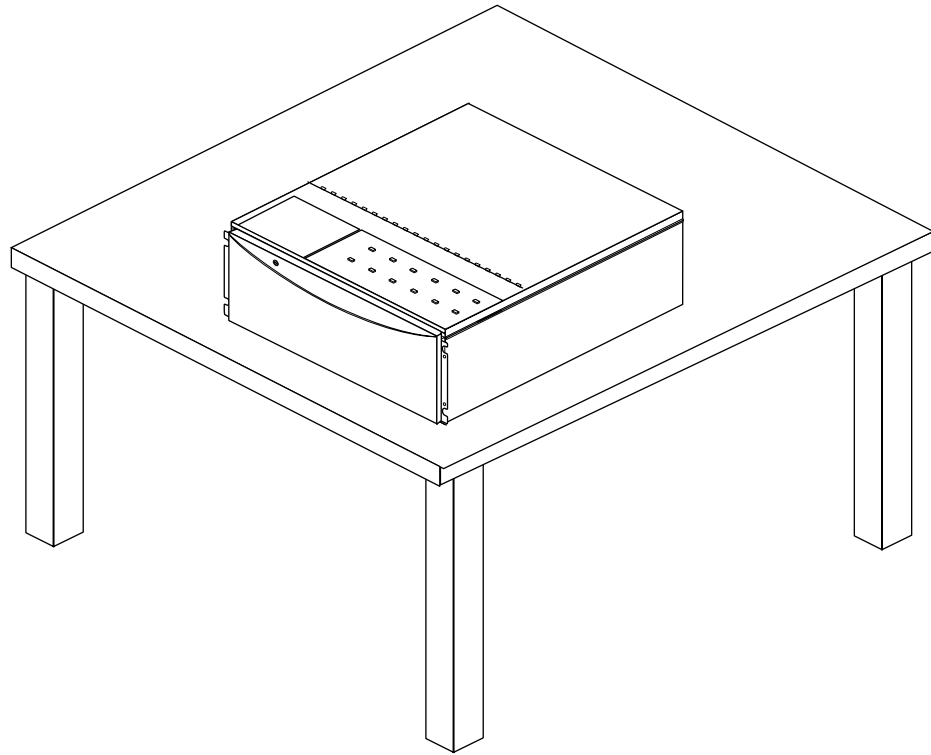

Figure 3-1 Placing the Origin200 on a Work Surface
- The system should be flat on the work surface, as shown in Figure 3-1.